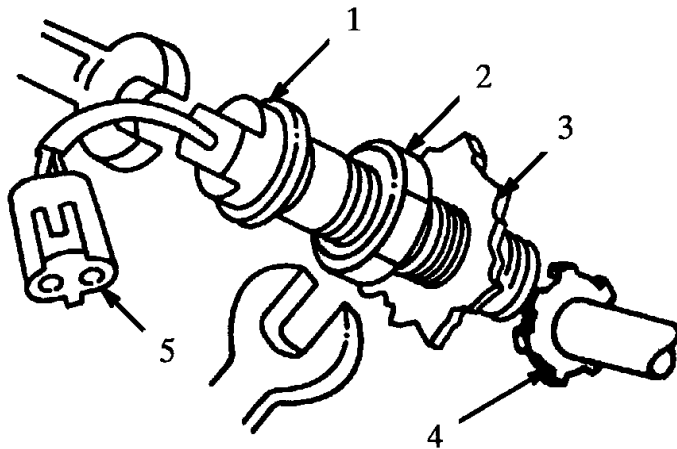

Figure 19 Disconnect Sensor Connector From Wiring Harness Connector
1. Disconnect the sensor connector from the wiring harness connector (Figure 19).